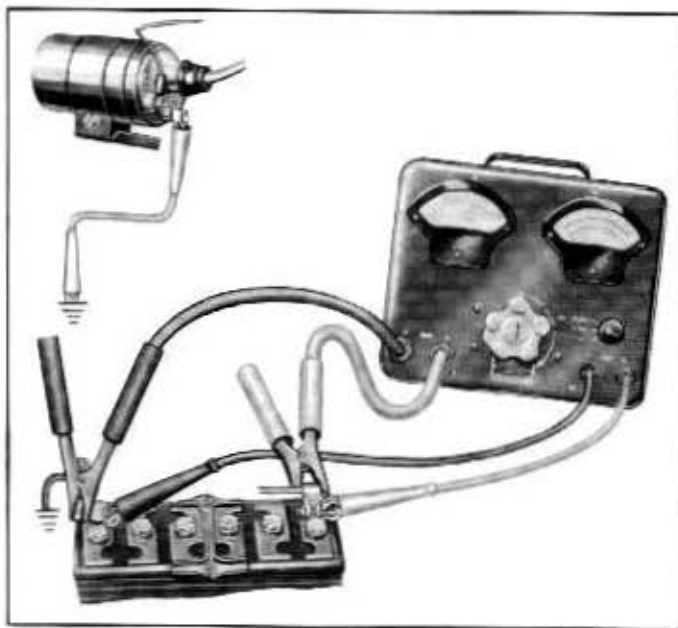

Fig. 9-30—Connections for Starting Motor Cranking Test—(60C-7689)
gine). If the current during the following test exceeds 150 amperes, the starting motor should be removed and repaired. See figure 9-30 for test connections. The engine must be at operating temperature for the Starting Motor Cranking Test which follows:
- CAUTION:** Connecting a "standard" ammeter across the battery terminals will short circuit the battery and damage the meter. Use a test instrument such as that shown in figure 9-30 with built-in series resistance, when making this test. Be sure to connect voltmeter leads directly to the battery terminals and not to the heavy ammeter test clips.